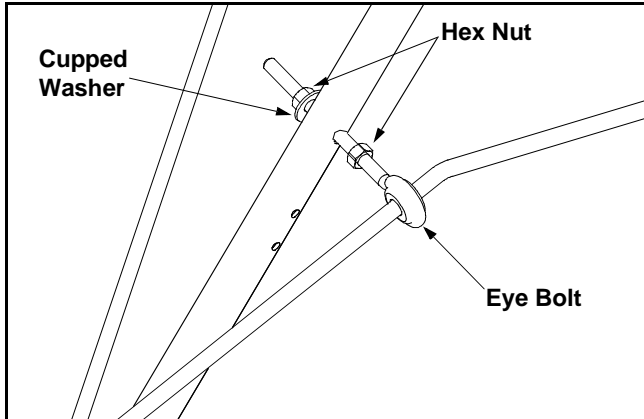

Figure 4
- Thread one hex nut about halfway onto eye bolt on the chute directional control. Insert eye bolt through the hole provided in the left handle. See Figure 4.